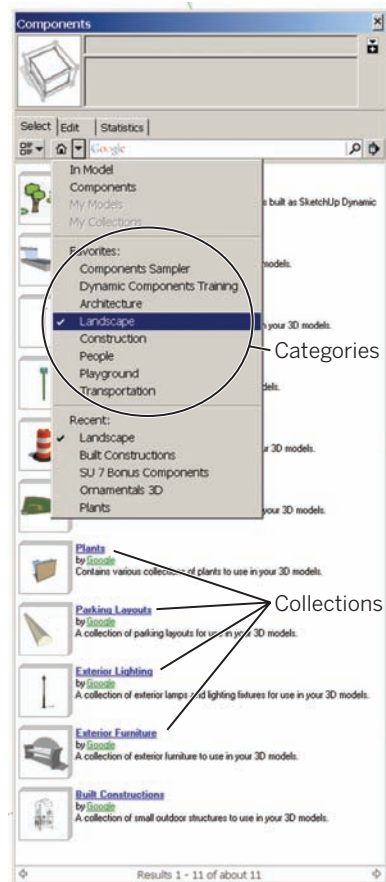

Fig. 3-21: Navigating the Components browser (Window > Components).
Google SketchUp's website offers free and very useful component bonus packs (Fig. 3-21).
4. In the Components browser, click the Select tab to view the Select panel (Fig. 3-21).